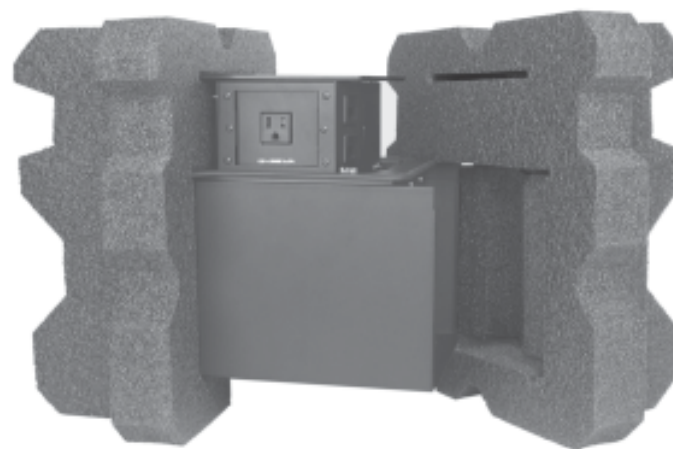

Figure B-5 — Installing the foam shell
6. Insert the HSA 822M and the clamshell into one of the foam shells (figure B-5). Either open end of the clamshell and the open top panel fits into the recesses in the foam.